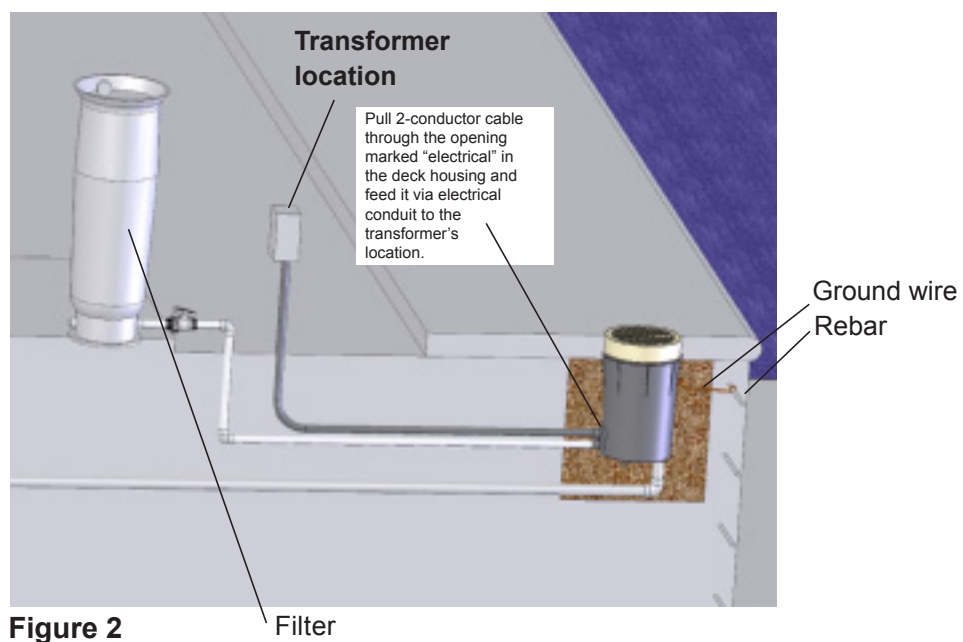

Figure 2 Filter
1. Pull the 14 gauge, 2-conductor cable through the opening marked “electrical” in the deck housing and route it, via electrical conduit, to the transformer location (Figure 2). Leave 1 meter of slack at the deck housing end to allow for servicing.